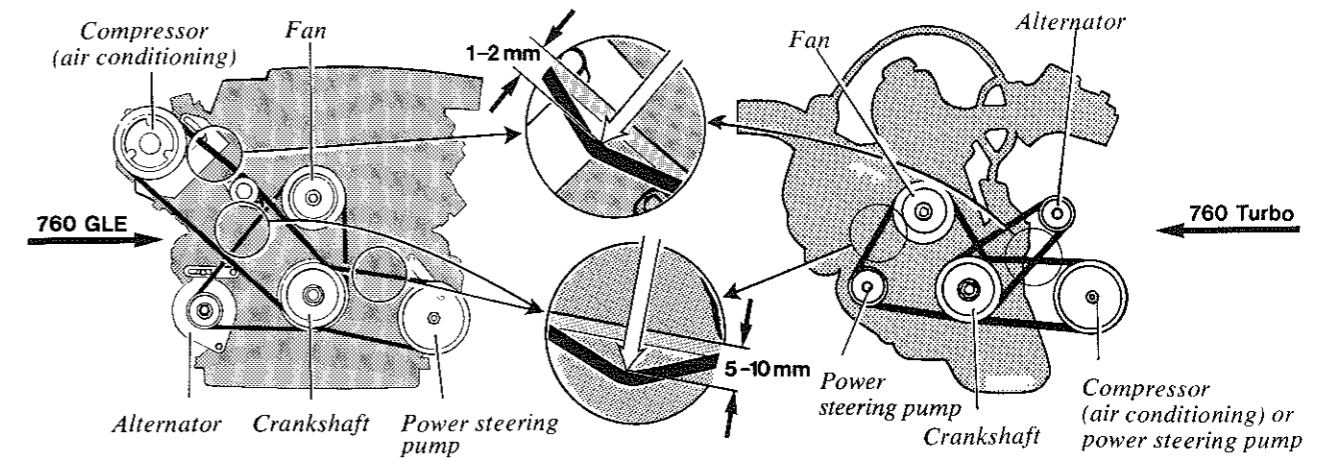

Fig. 2.4 Some typical accessory drivebelt layouts (Sec 7)
- 1 The accessory drivebelts transmit power from the crankshaft pulley to the alternator, water pump/viscous fan, steering pump and air conditioning compressor (as applicable). A variety of belt arrangements and tensioning methods will be found, according to equipment and engine type. A representative selection is given here (Fig. 2.4).